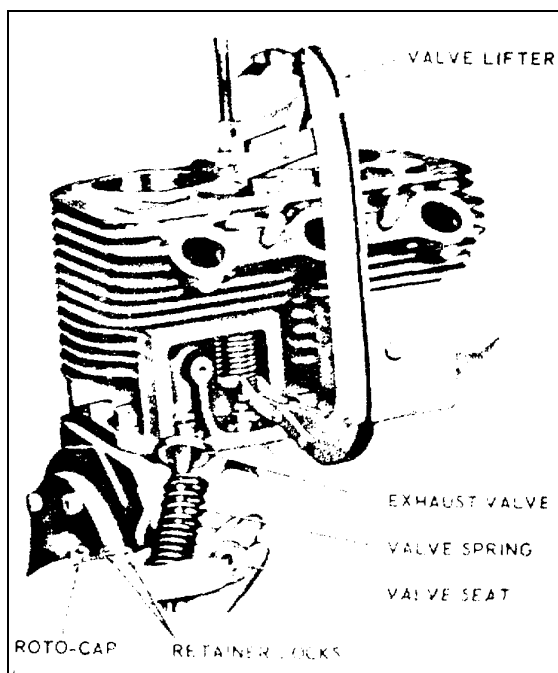
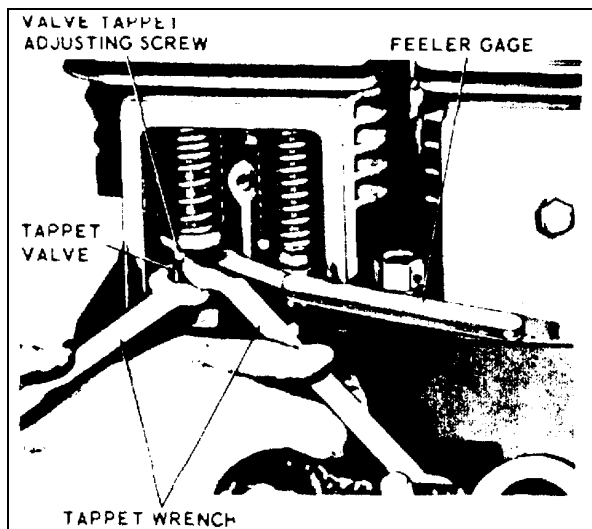

Figure 4-16. Removing Valves
Figure 4-20. Adjusting Tappets
(7) Remove valve tappet inspection plate and compress valve springs with a standard automotive type valve lifter as shown in figure 4-16. If cylinder block is still attached to engine, insert a rag in opening at bottom of valve chamber so roto-cap and valve spring seat retaining locks do not fall into crankcase. Remove roto-caps, valve spring seat retaining
(3) Install valve assembly (figure 4-16). Be sure to assemble roto-caps on end of valve stems. Adjust tappets (figure 4-20). With tappets in lowest positions, engine cold, the clearance should be: Inlet Valves 0.008 inch: Exhaust Valves 0.016 inch. Install valve tappet inspection plate.